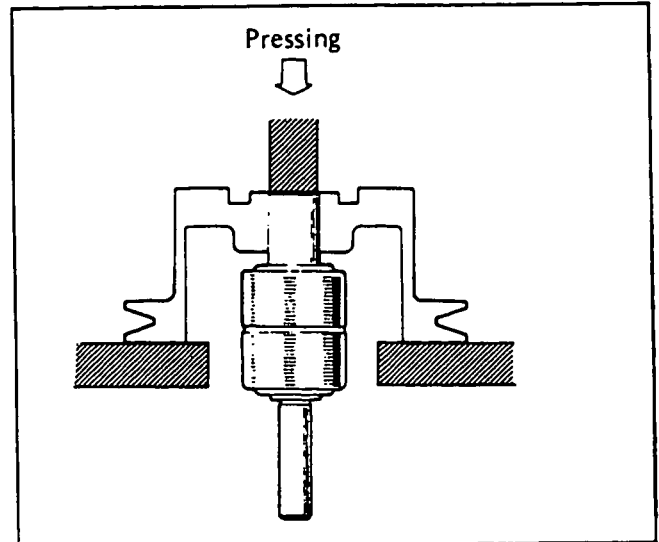

Figure 3. Separating Bearing from Fan Pulley
5. See Figure 3. Use a press to separate the bearing from the fan pulley.